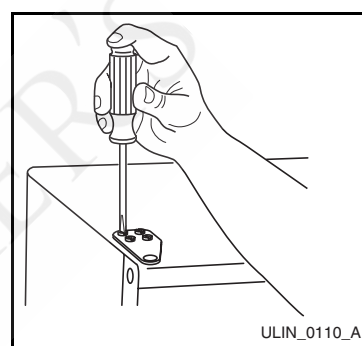

Figure 19
10. Place door on lower hinge pin. Align flat edge of top hinge with outer edge of unit and fasten upper hinge to unit (four screws) (**Figure 19**). Partially tighten screws until door is aligned.